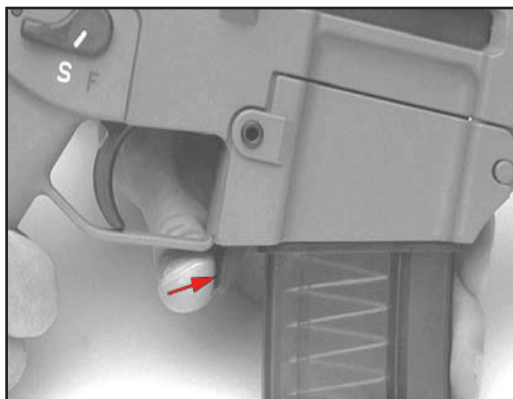

Figure 23 – Release magazine (push forward)
2. Push the magazine catch forward with the thumb and remove the empty magazine (see Figure 23 below).